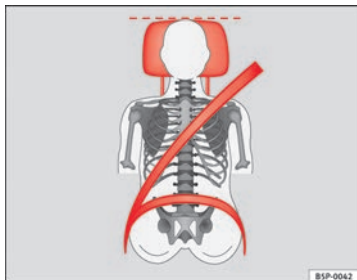
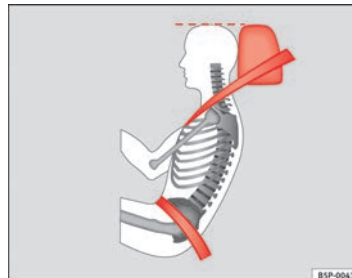

Fig. 68 Front view: head restraints and seat belts correctly adjusted
Fig. 69 Side view: head restraints and seat belts correctly adjusted
- Adjust the head restraint so that the top is at the same level as the top of your head or as close as possible to the same level as the top of your head, at least at eye level ⇒ fig. 68 and ⇒ fig. 69.